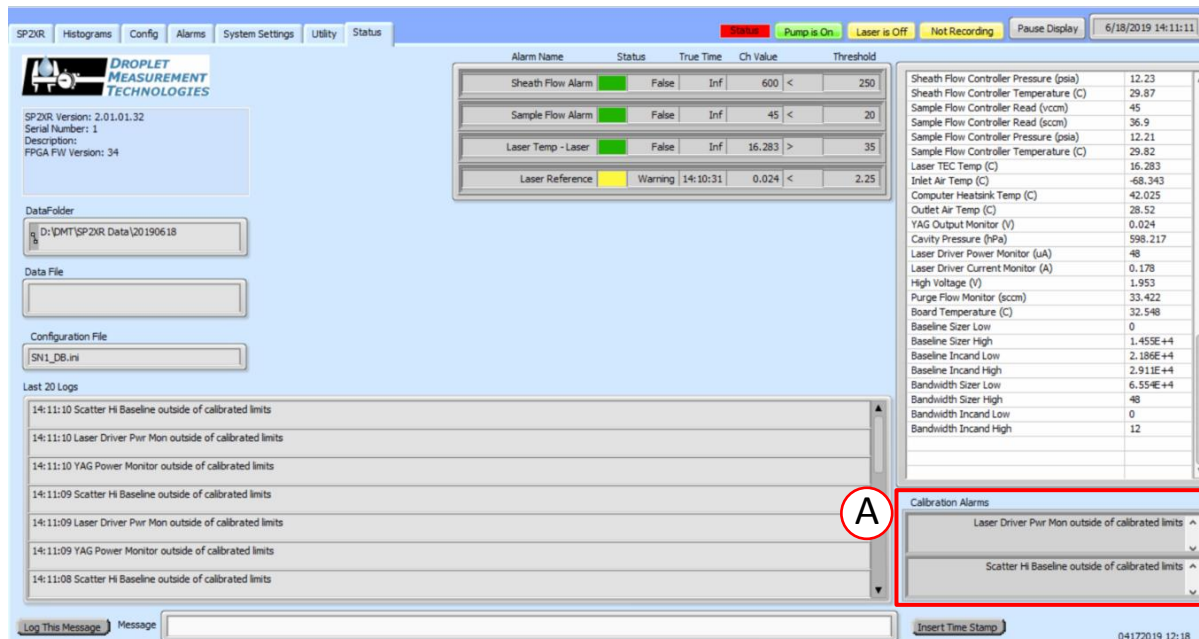

Figure 24: Status tab
The Status window (Figure 24) provides information on the status of any alarms on the instrument as well as a list of housekeeping parameters and their current values. The left side of the tab contains the current data folder, in YYYYMMDD form, as well as the data (if recording) and configuration file names. The bottom of the window contains the last 20 logs for quick checking of problems, as well as a location to log and timestamp a custom message. If a calibration alarm (A) shows a parameter is outside of calibrated limits during operation, the instrument must be sent to DMT for service.